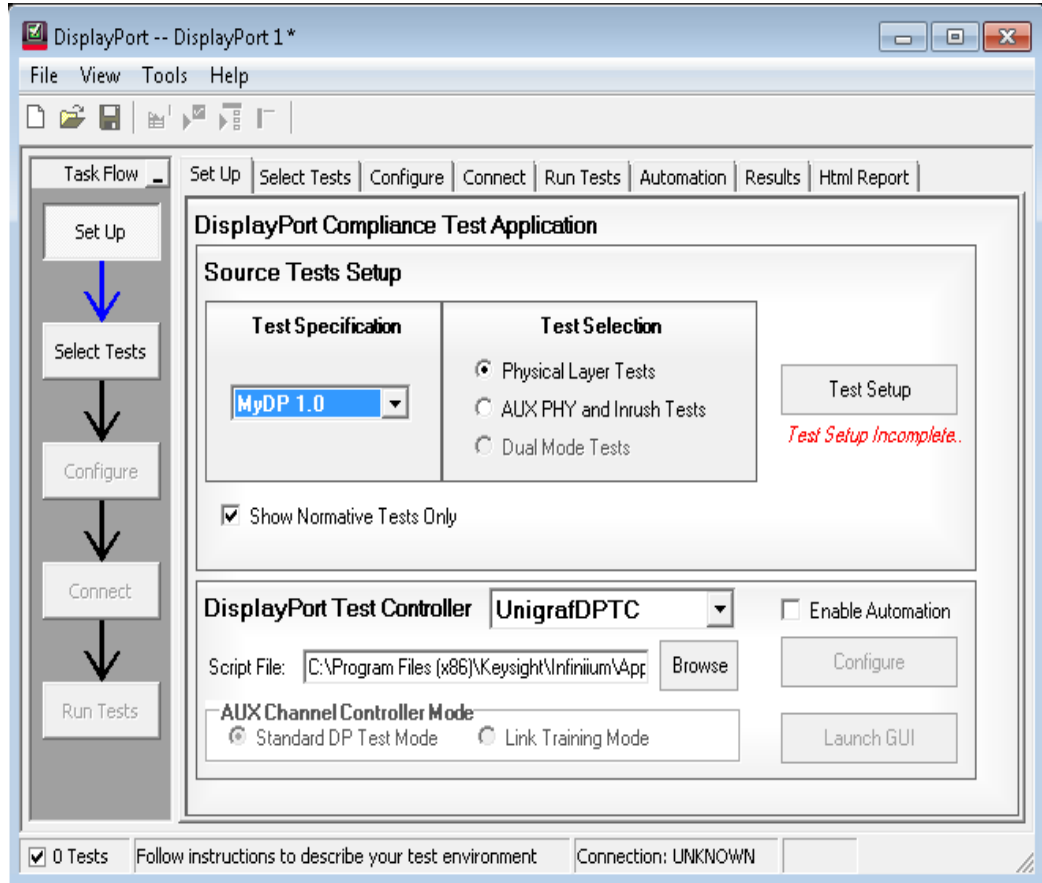

Figure 101 Set Up tab on the DisplayPort Compliance Test App
- 3 On the DisplayPort Compliance Test Application, click the **Set Up** tab (see Figure 101).